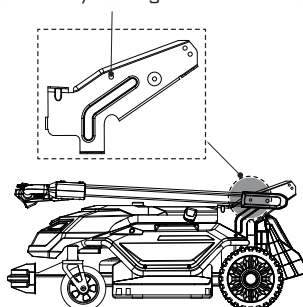

Fig. 2
- The lawn mower is operated automatically. The handle is on the AUTO MODE position. (See figure 2)